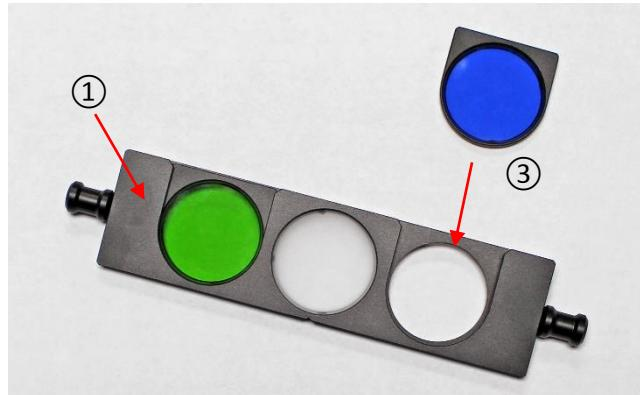
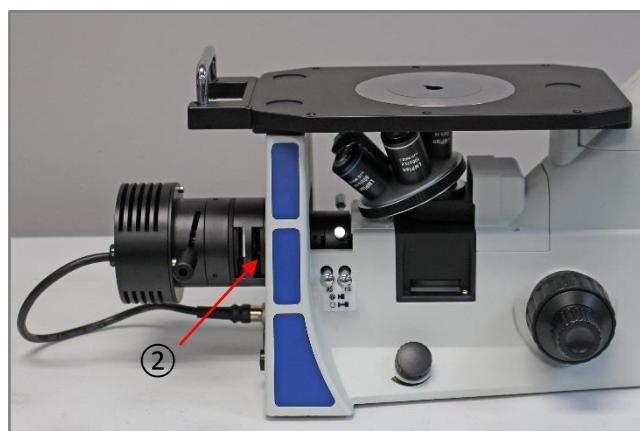

Fig. 19
Fig. 20
(Fig. 19, 20 & 21)
The MEC4 is equipped with three 32mm filters (blue, green and frosted), and a three position filter slider ① (Fig. 19) that is inserted into the filter slot ② (Fig. 20).
To insert a filter into the filter slider, position the rounded side as shown ③ (Fig. 19) and simply slide the filter into place (as shown with the green filter).